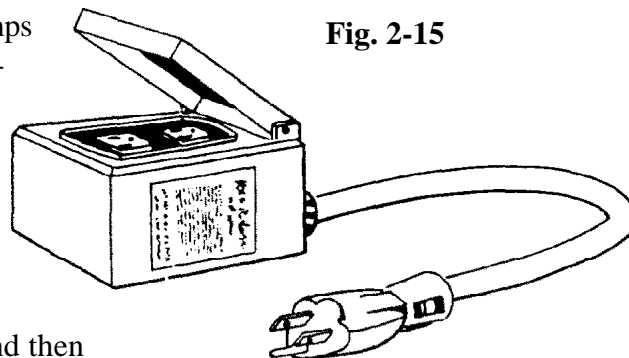

Fig. 2-15
**Ground Fault Circuit Interrupters (GFCI)** are devices for protecting a person using an outlet in places where the person may be between a “hot” wire and ground. The GFCI measures the charge leaving the “hot” wire, and the charge coming back into the neutral wire. The GFCI compares the two, and if they aren’t the same, it decides that some of the charge is going some place it’s not supposed to be going, and the GFCI shuts off the outlet current (Fig. 2-15).